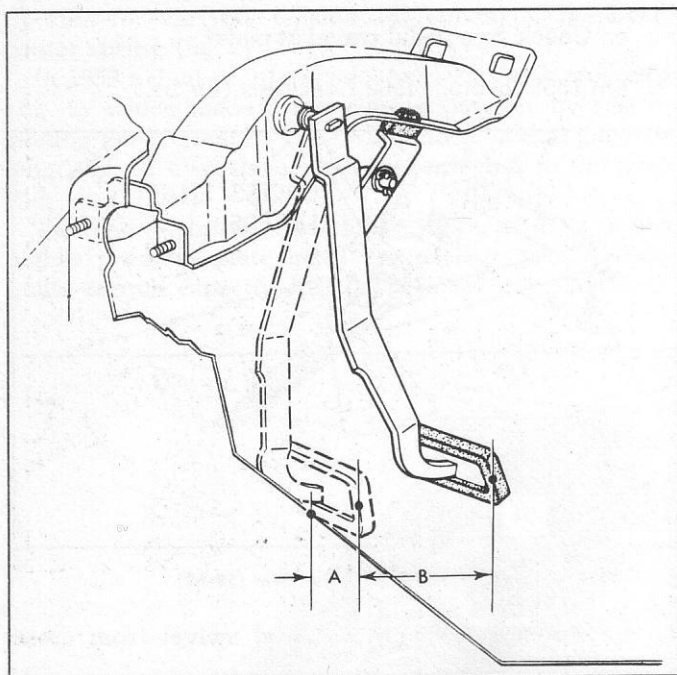

Fig. 6—Pedal Total Travel Adjustment
Clutch pedal total travel is the chord of the arc traveled by the pedal pad from its bumper stop position to its floor stop position during clutch release as shown in Figure 6. This dimension should be approximately 6 $\frac{1}{2}$  inches (4 $\frac{1}{2}$  on fast release position—late model vehicles) measured as follows:
1. With pedal held against floor stop, measure distance "A" (fig. 6).
2. Release pedal to its bumper stop and measure distance "B" (fig. 6).